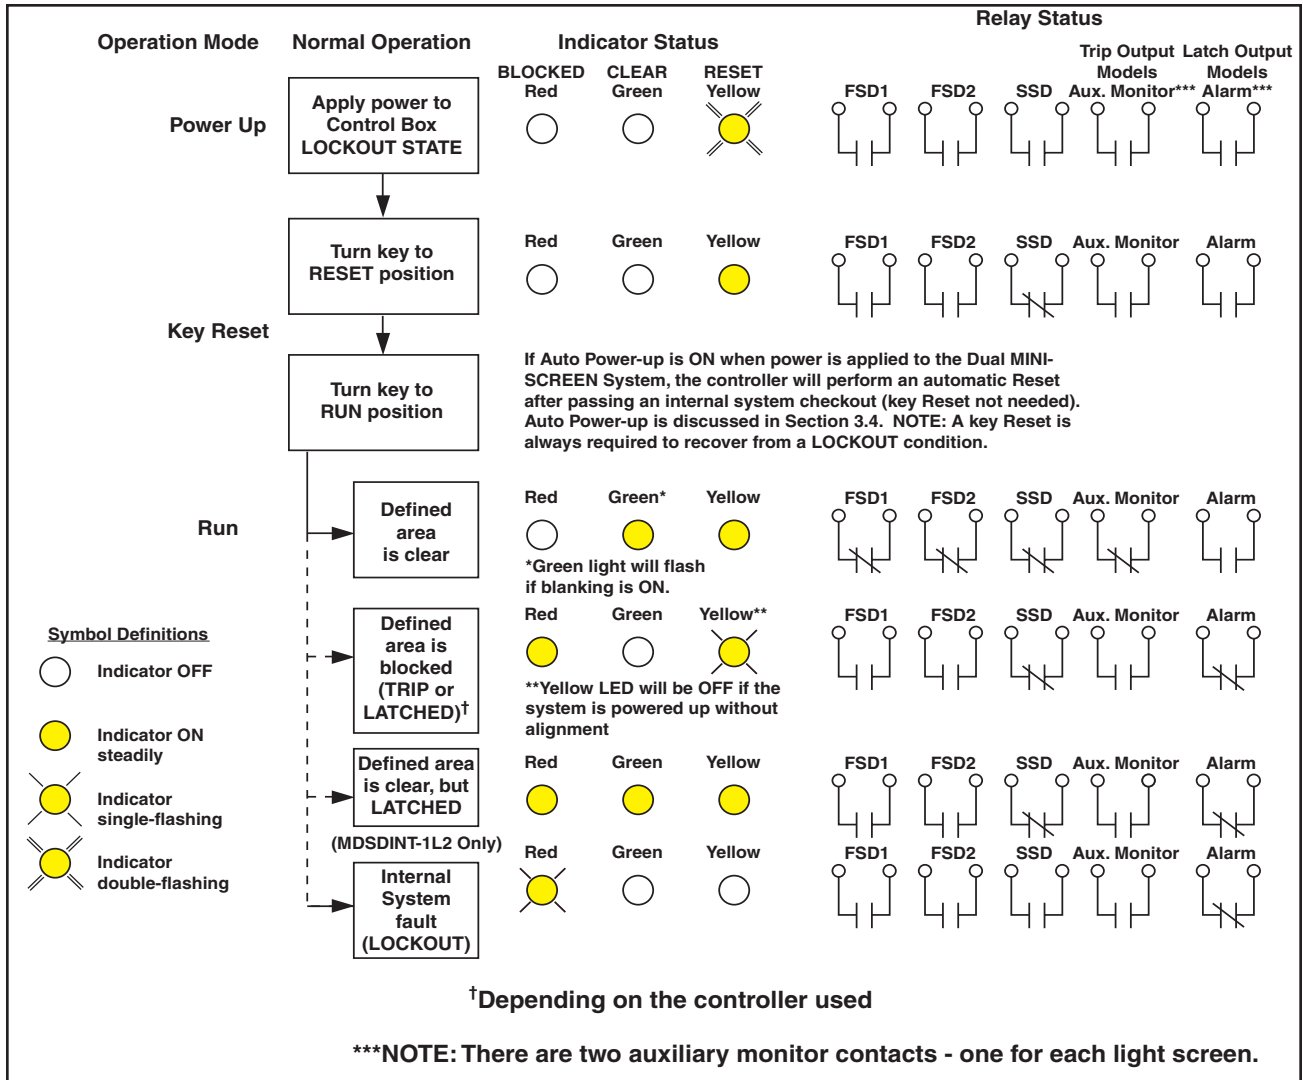

Figure 5. Dual MINI-SCREEN System status indicators and associated output conditions
- Upon power-up of the Dual MINI-SCREEN System (unless Auto Power-up is ON; see Figure 5, page 11).
- If power to the Dual MINI-SCREEN System is interrupted (unless Auto Power-up is ON; see Figure 5).
A lockout condition resulting from an internal system fault is indicated by a flashing red status indicator LED on the control box and the receiver unit. The green and yellow LEDs will be OFF. See Figure 5, page 11.
There are two Auxiliary/Alarm Monitor Relays. One relay is assigned to each of the two light screens. See Figure 5 for operation. When an obstruction is sensed in one of the light screens, the associated monitor contact will switch. In addition, both monitor contacts will open for a lockout condition. These monitor contacts are rated only for 10VA, maximum, and are typically used to signal light screen activity to a process controller. The contacts of these relays are not for safety-related use.